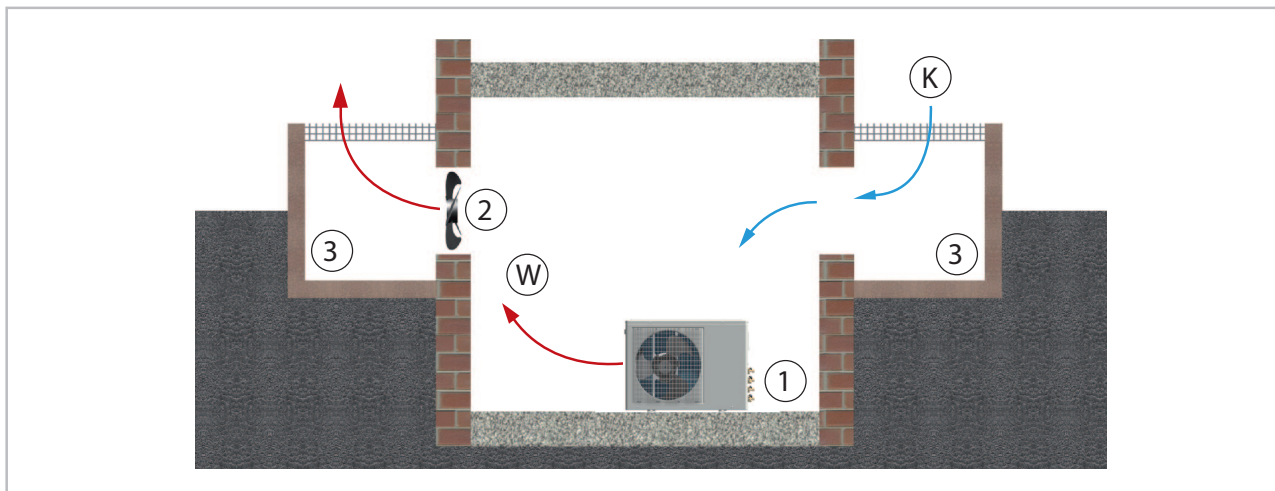

Fig. 13: Installation inside buildings
- Ensure that heat can dissipate adequately when placing the outdoor unit in cellars, lofts, adjoining rooms or halls (Fig. 13).
- Install an additional fan with a rated flow comparative to that of the outdoor unit being installed in the room and which can compensate any additional pressure loss in ventilation ducts (Fig. 13).